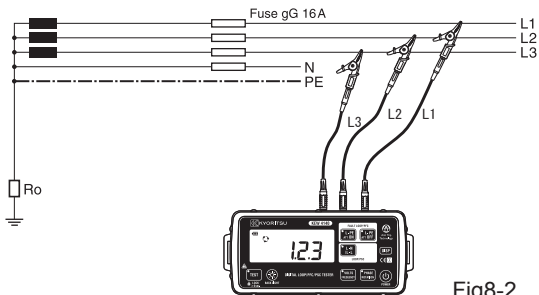

Fig8-2
3. Connect each test leads to a circuit. (Fig.8-2)